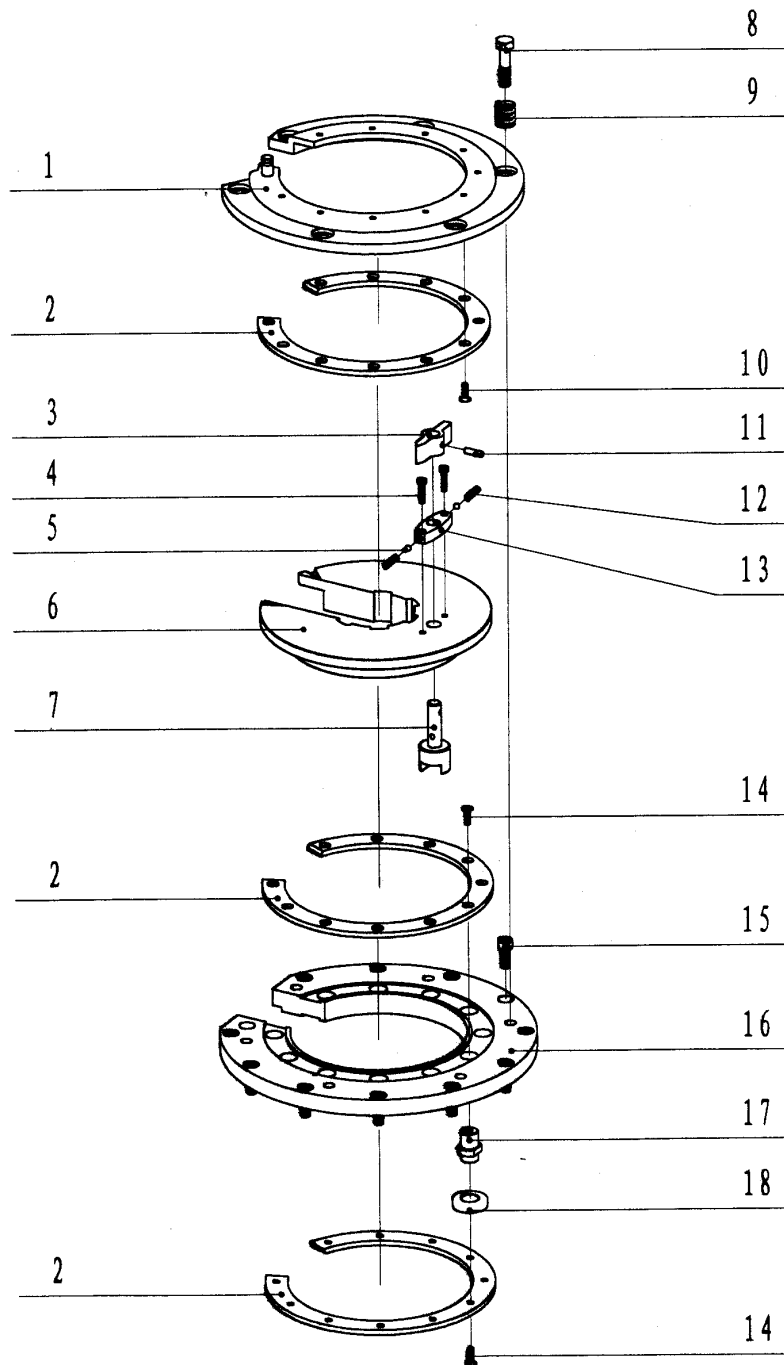

Fig 4
- 8. 2. 2 Tong head cover assy. (Fig 4, Table 4)
9.2.2 Tong head cover assy. (Fig 4, Table 4)